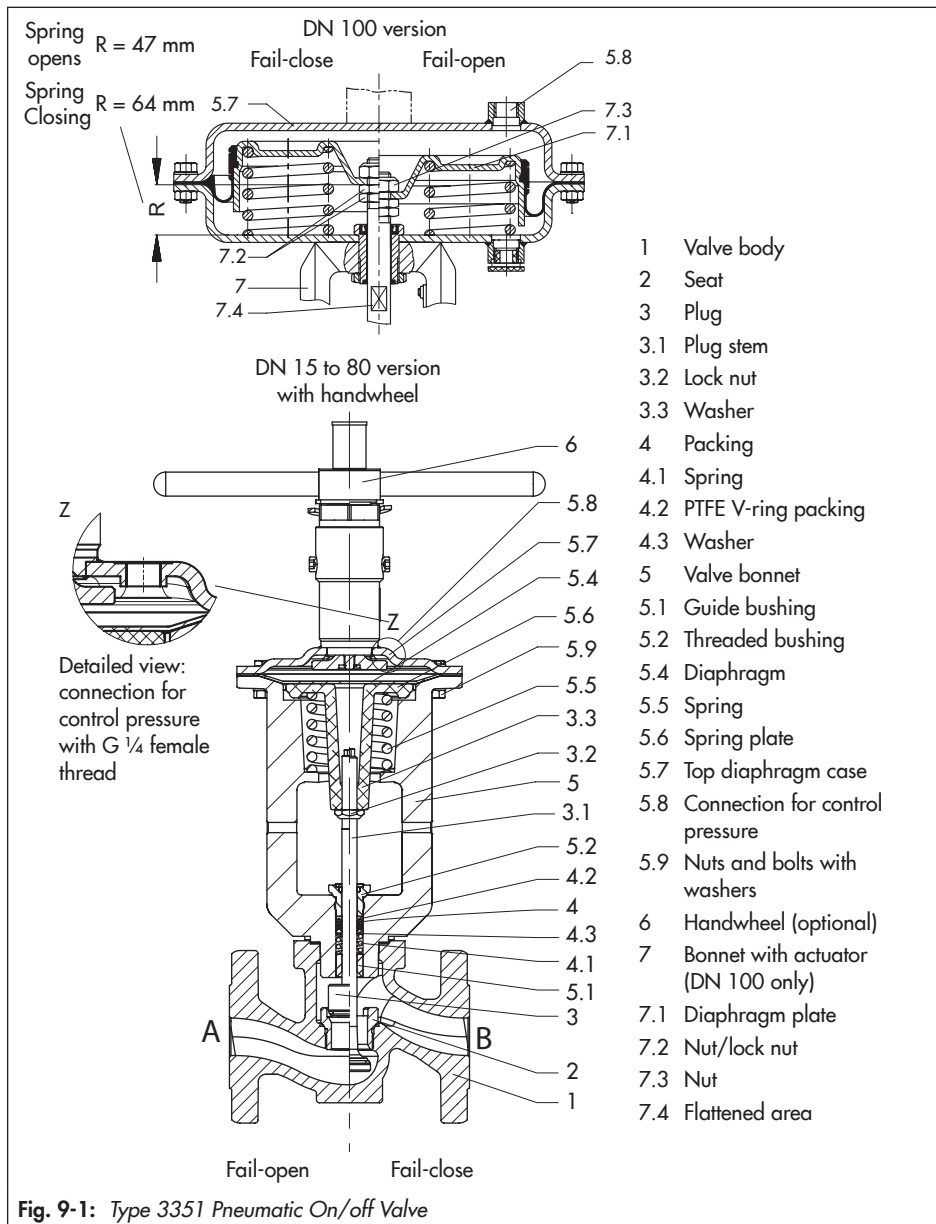

Fig. 9-1: Type 3351 Pneumatic On/off Valve
5. Screw nut and lock nut onto the plug stem according to the dimension R (Fig. 9-1) and tighten. On doing so, make sure the plug rests on the seat.